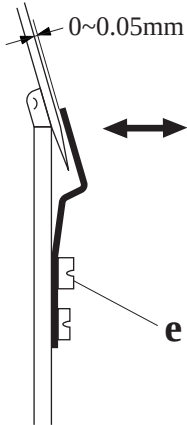
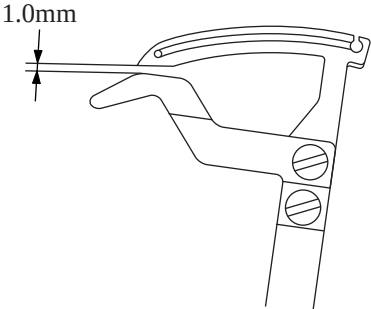

Fig.4
Fig.5
5. Clearance of chain needle(s) guard: Bring needle bar to its lowest position, turn the handwheel toward you and make sure that the clearance between both chain needle guard and needles is less than **0.05mm**. If necessary, adjust clearance with screw "**e**".(Fig.4) Make sure that the gap between chain needle guard and chain looper is set at **1.0mm**. (Fig.5)